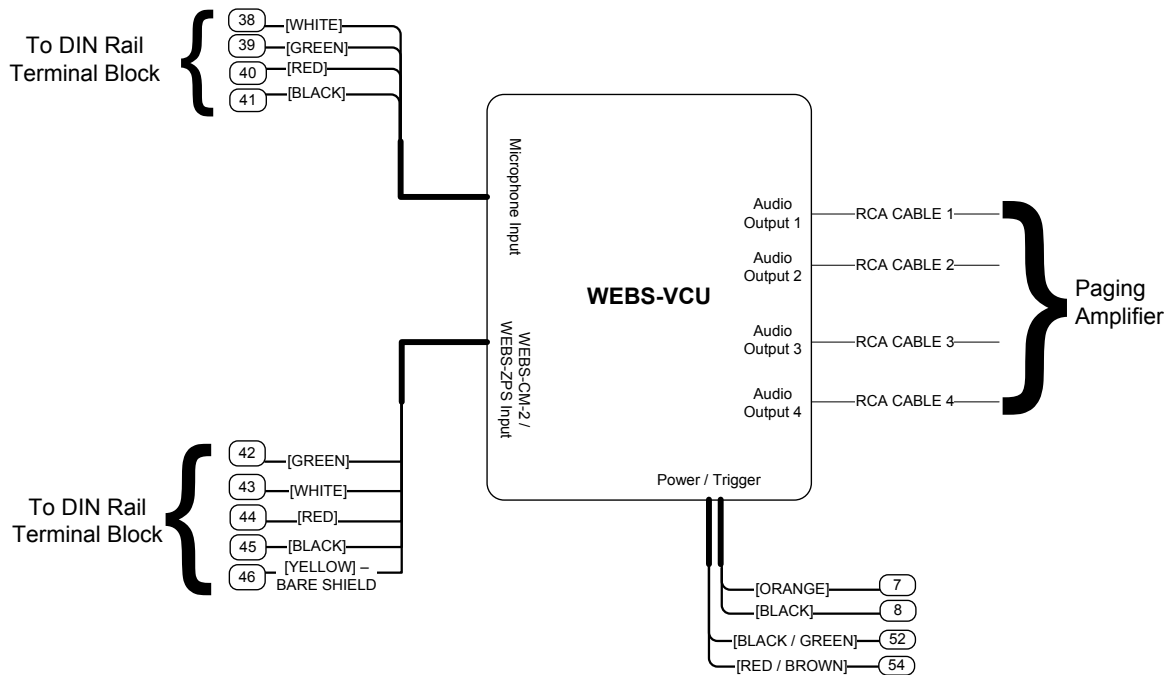

Figure 5. WEBS-VCU, Paging Amplifier and DIN Rail Terminal Block Connectivity Layout
3. Connect the **WEBS-VCU** and the DIN Rail Terminal Block as shown in **Figure 5**.